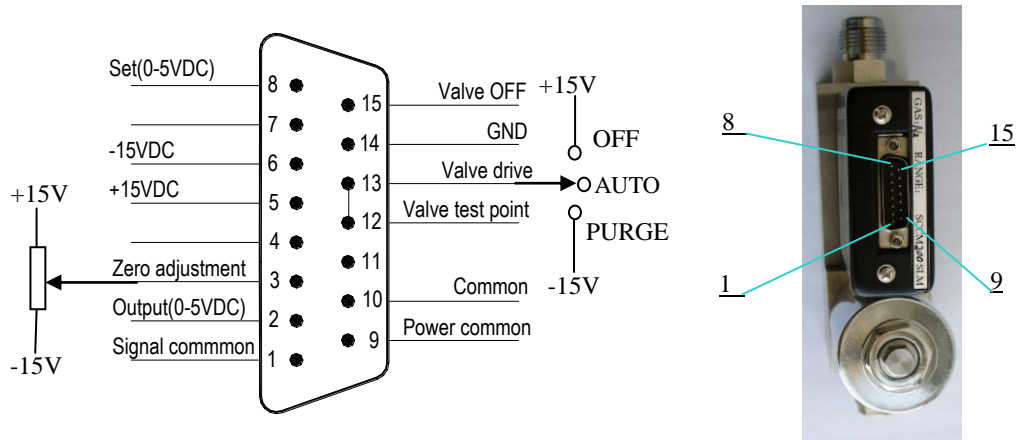
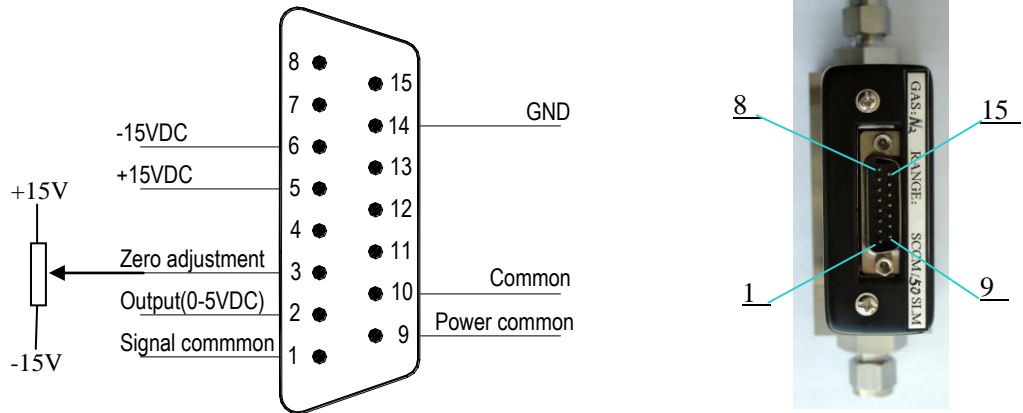
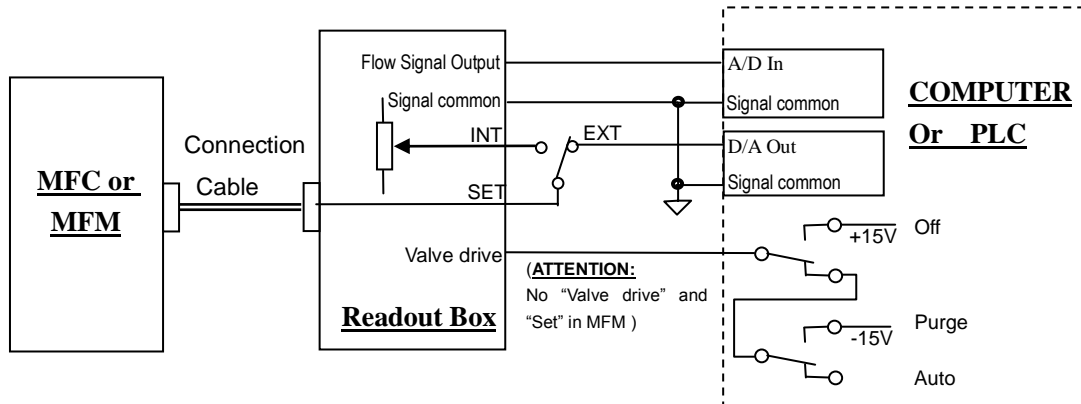

Figure 10. “T” Connection of D07-9E MFC
Figure 11. Connection of 9EM-MFM Electric Connector
Figure12. Connection with PC through Readout Box
D07-9E- MFC connections have “B” and “T” two styles for choice. General speaking, if there are no other statements, it will be considered as “B” connection style from factory. “B” connection is showing in figure 10 (is same as 5850-MFC-D connector of BROOKS but lack of 5V power supply). Between “B” and “T”, it could be transferred by J1, J2, J3 of PCB, J1, J2, J3 connections are showing in figure 11. “T” connection is showing in figure 12 (which is compatible with cables of FC2900 series MFC of Tylan)
9EM-MFM connector (figure11) is as same as connector of 9E-MFC, only compared with MFC accessories that lacks of “ Valve drive” and “Set” two wires.
- a. Connection through Flow Readout Box with PC or other external signal. (Figure 12)
If PC or PLC need perform the OFF and PURGE function of valve control, it could be accomplished by use two RELAYS (two sets) transfer contacts. One relay controls OFF and another one controls PURGE, when these two relays are not operating then it reaches to auto-control mode. Please be careful, it should be not caused short circuit by two relays simultaneously operating. Suggested relays connection as method as showing in Figure 11.